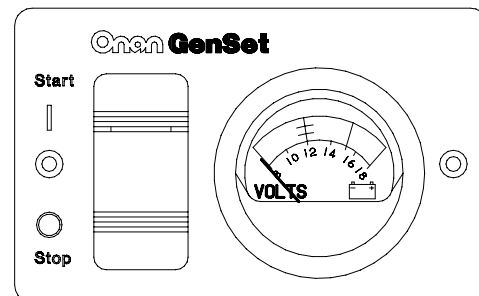

FIGURE 14. REMOTE SWITCH / DC VOLTMETER
- Remote switch / status lamp and DC voltmeter (Figure 14).